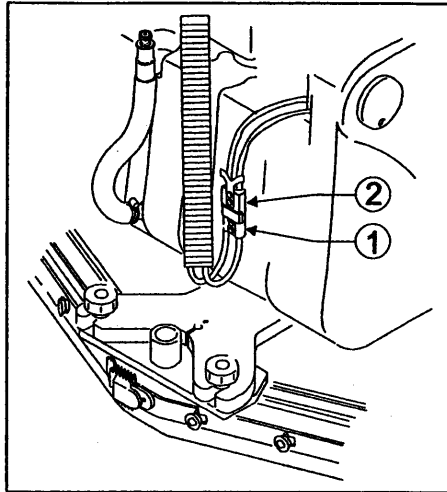
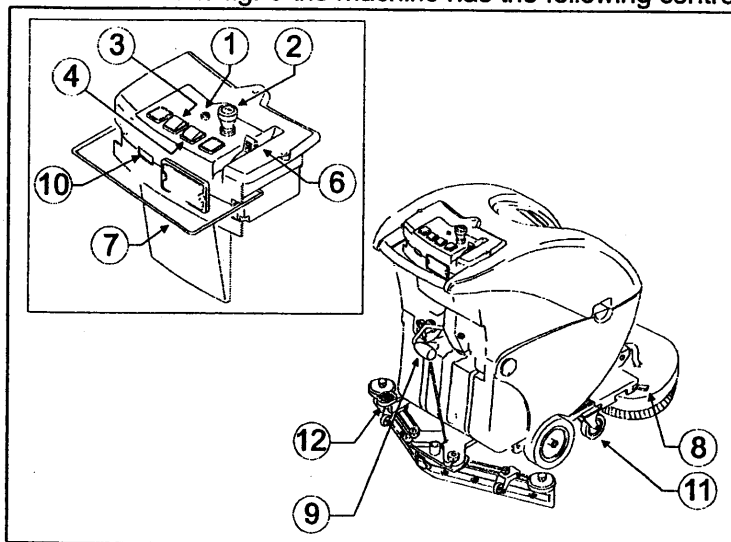
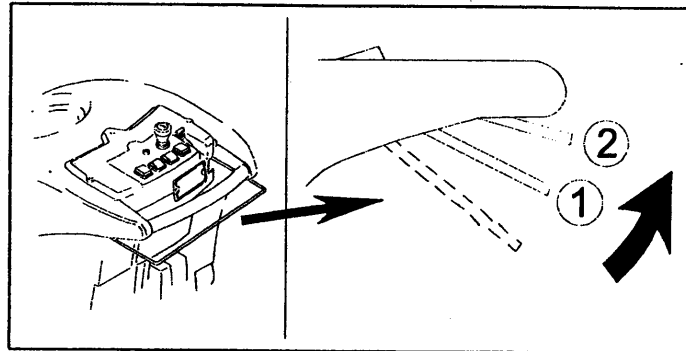

Fig. 4
Fig. 6
Fig. 8
- 2) disconnect the Anderson connector (fig. 4, ref. 2) of the battery wiring from the corresponding Anderson connector (fig. 4, ref. 1) of the main wiring;
- 8) after having checked that all switches on the control panel are at the position "0" (off), connect the battery wiring connector (fig. 4, ref. 2) to the machine wiring connector (fig. 4, ref. 1);
With reference to fig. 6 the machine has the following controls and leds:
- insert the key to release the emergency button (fig. 6, ref. 2);
- under the handgrip there is a lever (fig. 6, ref. 7): by pulling it up, the motor gets started and the machine starts moving;
- once you have reached the desired spot, lower the head by pushing down the release pedal (fig. 6, ref. 12).
The machine is provided with two speeds of travel depending on whether the drive lever (fig. 6, ref. 7) is pressed upwards slightly (fig. 8, ref. 1) or completely (fig. 8, ref. 2).
Before disassembling the brushes, stop the machine, lift the head and wait until the brushes are still. Press "0" on the brush switch (fig. 6, ref. 3); press the emergency button (fig. 6, ref. 2) and disconnect the battery connector (fig. 4, ref. 2).
- lower the head using the proper pedal (fig. 6, ref. 12);
- check that the cock control lever (fig. 6, ref. 6) is at the position "off";
- insert and operate the key to release the emergency button (fig. 6, ref. 2), and make all the machine functions active: the power supply led lights up (fig. 6, ref. 1);
- move the cock lever (fig. 6, ref. 6) to the position of minimum flow of solution: the detergent solution begins to reach the brushes;
- lower the squeegee by means of the proper lever (fig. 6, ref. 9);
- press "1" on the brush switch (fig. 6, ref. 3) to enable the function "Brush": the brush motor is started. The turning brushes spread the solution all over the floor;
- press "1" on the suction unit switch (fig. 6, ref. 4) to start the suction motor;
- press the drive lever (fig. 6, ref. 7) placed under the handgrip: the drive motor is started and the machine starts moving forward;
- should it be necessary, reduce the brush-head pressure exercised on the floor acting on the pressure lever (fig. 6, ref. 8) (see label attached next to the lever);
- while working, check the quality of washing and, if necessary, adjust the flow of solution sent to the brushes (by turning the lever (fig. 6, ref.6)).
- if the warning led (fig. 6, ref. 1) starts flashing, it means that the storage batteries are getting flat. Therefore, it is necessary to recharge them, as there is no device blocking the total running of the machine; if you keep on working, the batteries could become damaged irreparably.